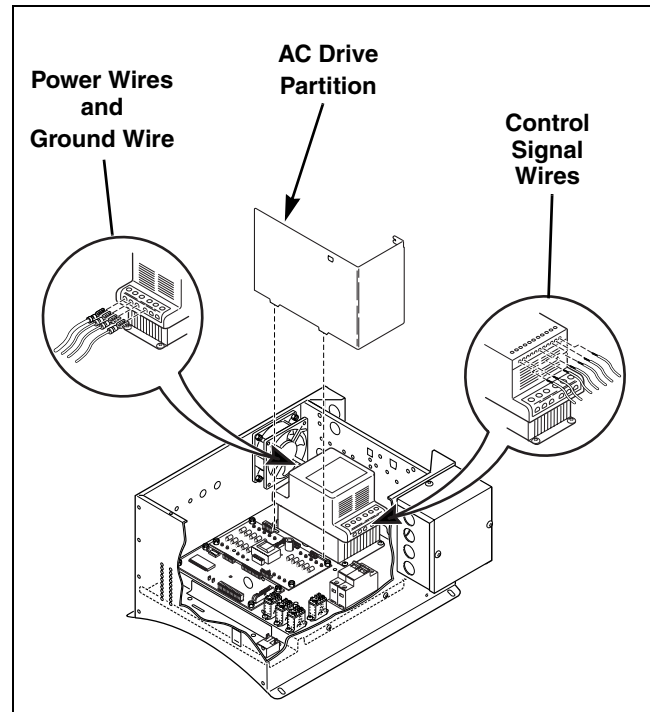

Figure 12
- Loosen the screw that attaches the AC drive partition to the control module. Remove the AC drive partition. Refer to *Figure 12*.
- Mark the control signal wires (the wires going into the right side [facing the front of the machine] of the AC drive). Loosen the screws that connect the control signal wires to the AC drive. Remove the control signal wires from the AC drive. Refer to *Figure 12*.
- Mark the power wires and the ground wire (the wires going into the left side [facing the front of the machine] of the AC drive). Loosen the screws that connect the power wires and the ground wire to the AC drive. Remove the power wires and the ground wire from the AC drive. Refer to *Figure 12*.